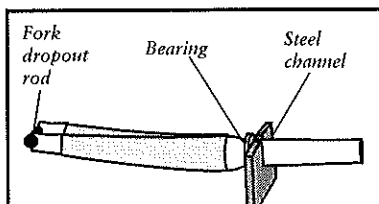

Fig. 39
1. Place the steel channel in a vise. Place the Fork dropout rod in the fork dropouts (Fig. 39) and snug up the attachment bolts.